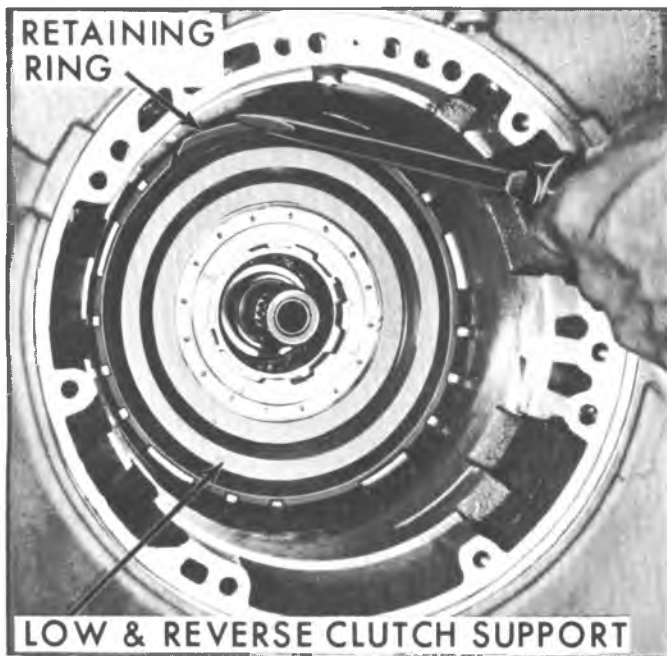

Fig. 38N--Removing Low and Reverse Clutch Support Retaining Ring
- 13. Remove low and reverse roller clutch support to case retaining ring (fig. 38N).